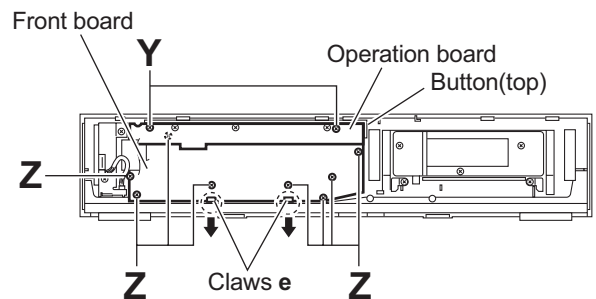

Fig.16
3.1.11 Removing the operation board (See Fig.16)
3.1.12 Removing the front board (See Figs.16 and 17)
- (2) From the inside of the front panel assembly, remove the eight screws **Z** attaching the front board. (See Fig.16.)
- (3) Take out the front board while releasing the claws **e** in the direction of the arrow. (See Fig.16.)